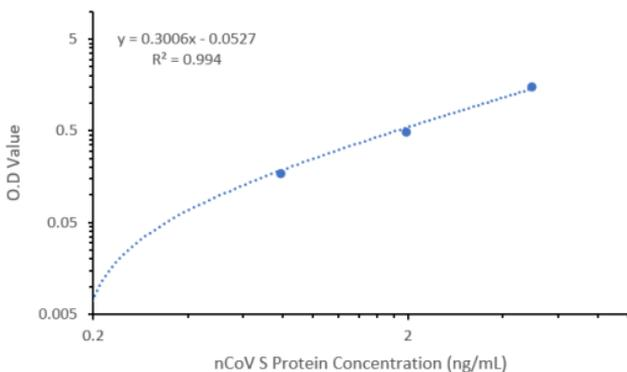

Figure 1. Typical calibration curve of the supplied Calibration standards. Data was analyzed using MS Excel® software.
2. Generate a standard curve by plotting the known Calibrator amounts (x-axis) versus O.D. value (Y-axis) as log₁₀ values or using a logarithmic scale. Determine the linear regression equation for the data and ensure that the R² value is close to 1 (see Figure 1).